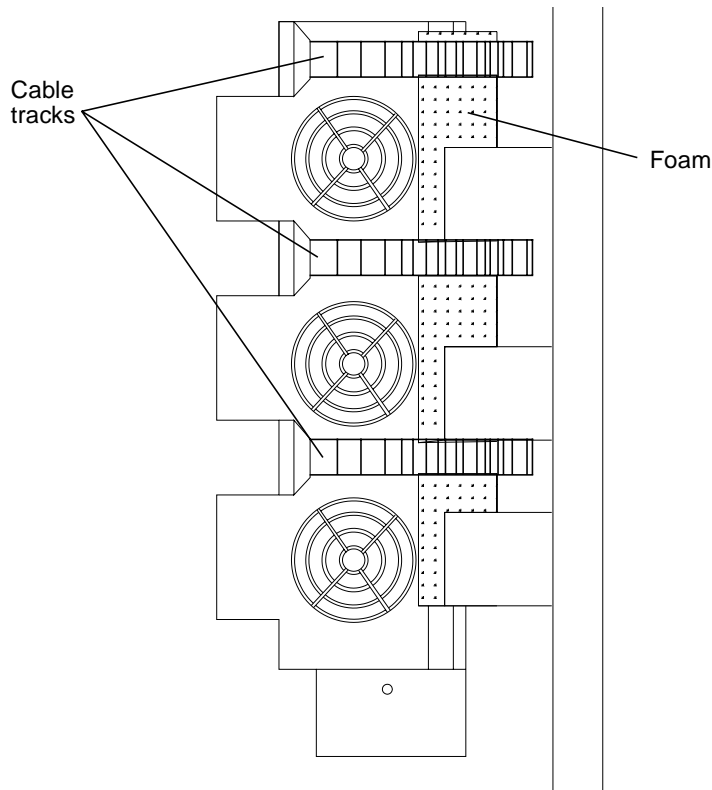

FIGURE 2-4 Removing the Foam HDSA Shipping Material
5. Locate the foam packing material behind the HDSA cable tracks and carefully remove it. See FIGURE 2-4.